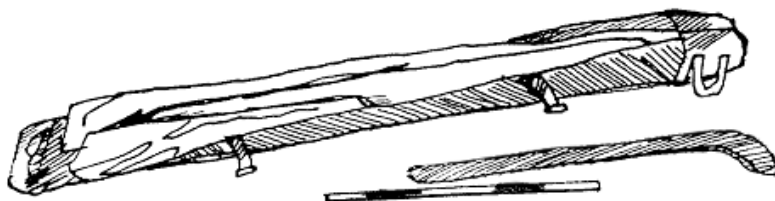

Fig. 9
2.2.4. Turn the glider so that the downtubes packed into the safety bags are on the bottom and kingpost is on the top (Fig. 9).